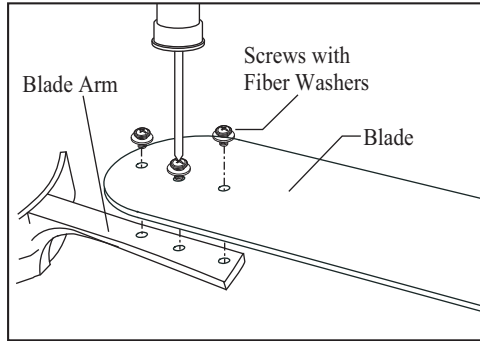

Figure 12
1. Attach blades to blade arm using the screws with fiber washers provided (Fig. 12). Start a screw into the blade arm, do not tighten. Repeat for the 2 remaining screws and washers.